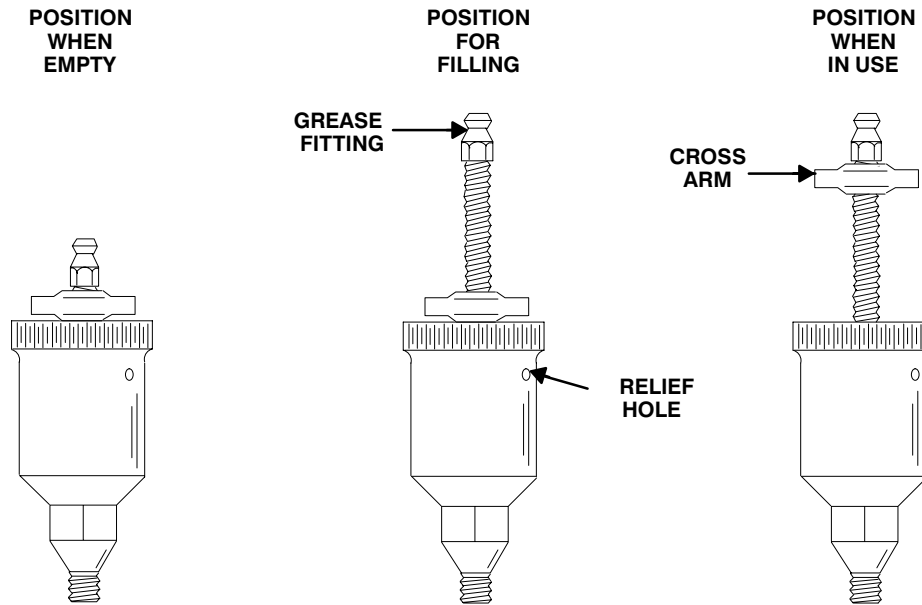

Figure 5. Automatic Lubricating Grease Cup
Fill the grease cup (15) through the grease fitting with No. 2 lithium base grease until grease escapes from the relief hole. Turn the grease cup arm counterclockwise until it is at the top of the stem; this will release the spring to apply grease to the seal (see Figure 5).